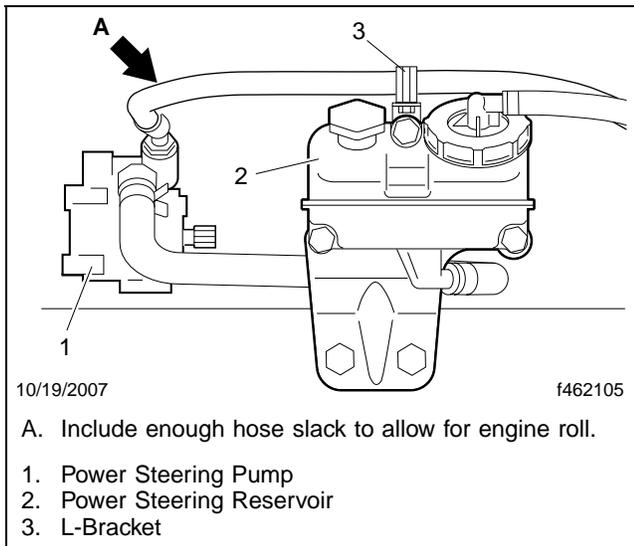

Fig. 4, Hose Routing To Pump (S60 Shown)
27. Install and route the new pressure line from the frame-mounted hose bracket to the pump, and include extra hose between the L-bracket on the top-mount of the reservoir and the pump to allow for engine roll. See **Fig. 4**. Tighten the fitting 42 to 52 lbf·ft (57 to 70 N·m).
30. Using hose clamps, install the new power steering pump suction line on the reservoir and pump. See **Fig. 4**.